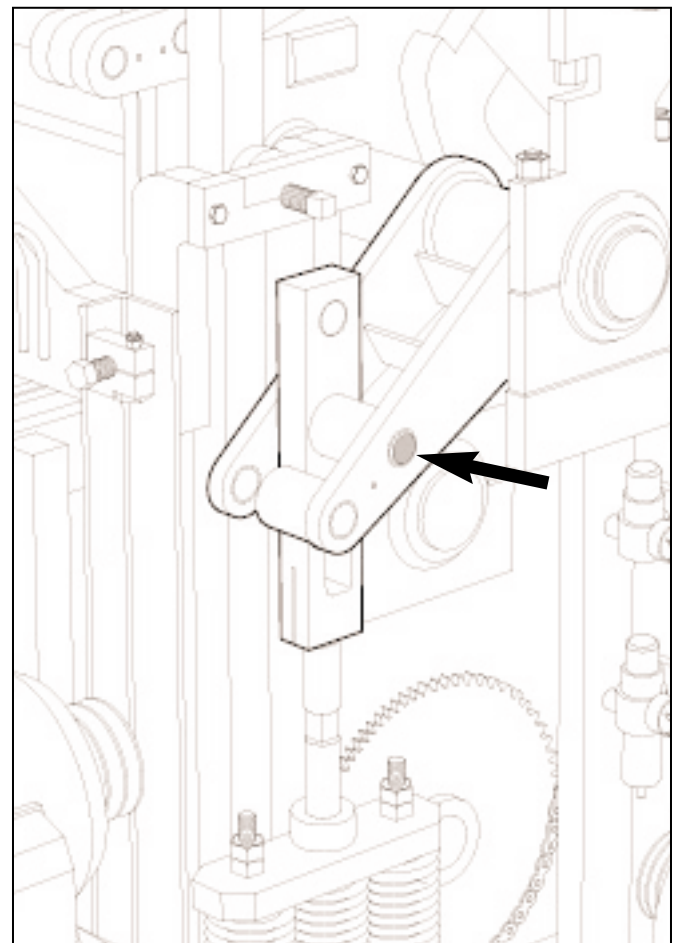

Figure 4.51 POSITIONING PINS IN INNER HOLES.
- 4.4.12 Position the pins in the inner holes of the pallet receiver shaft arms (see figure 4.51).